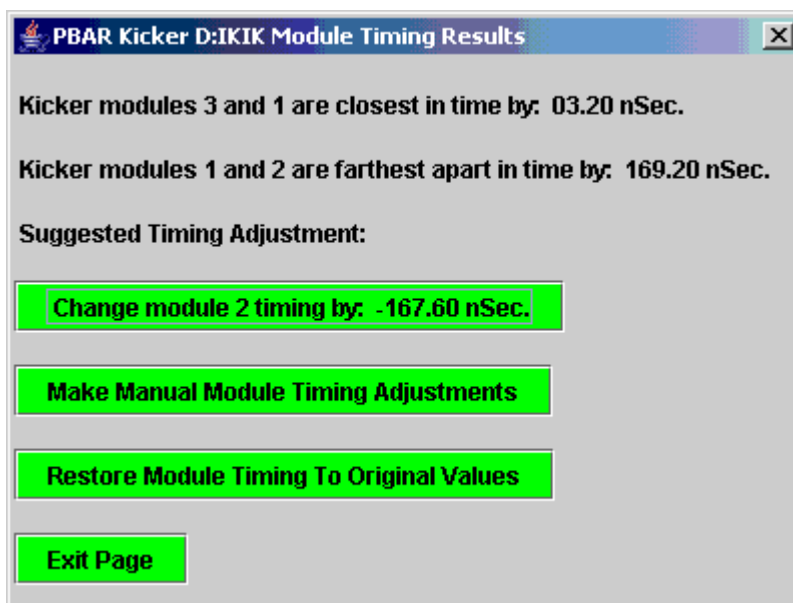

Figure 18: The results and suggested timing change are displayed on another popup window.
8. The Timing Results window (see Figure 18) presents the results and suggested tuning options. If the changes look reasonable, then make the suggested changes. It is normal to make ~200nsec changes.